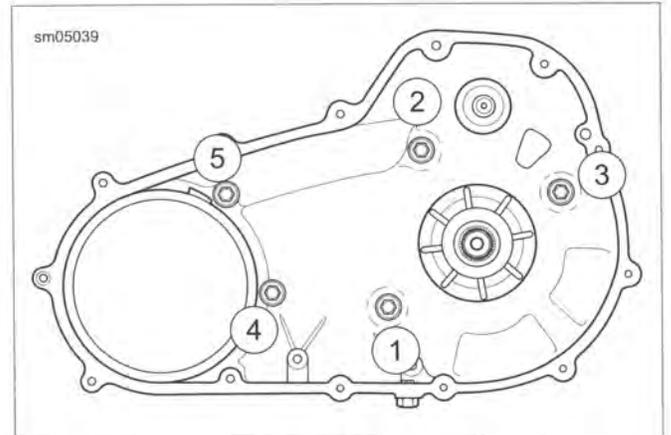

Figure 5-28. Sealing Fastener Torque Sequence
6. See Figure 5-28. Tighten fasteners in sequence shown to 26-28 ft-lbs (35.3-38.0 Nm).